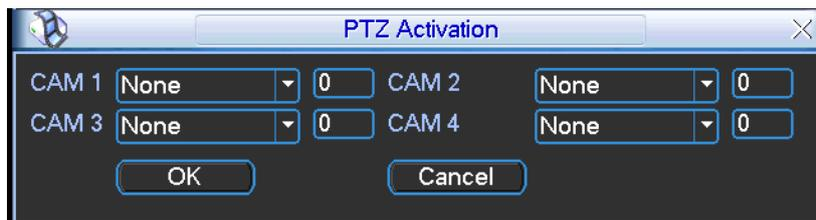

Figure 4-16
- PTZ activation: Here you can set PTZ movement when alarm occurs. Such as go to preset, tour &pattern when there is an alarm. Click “select” button, you can see an interface is shown as in Figure 4-16.
- PTZ activation: Here you can set PTZ movement when alarm occurs. Such as go to preset, tour & pattern when there is an alarm. Click “select” button, you can see an interface is shown as in Figure 4-16.